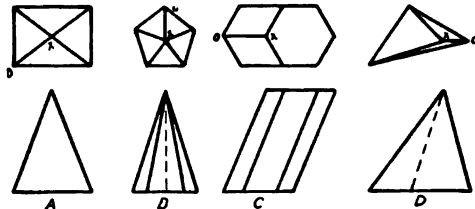

Fig. 77.
5. Show the axis of the following solids. (Fig. 77). Which is oblique? Which is vertical?
6. Tell whether the edge (OX) shows in its true size or is foreshortened in Fig. A, B, C, D.